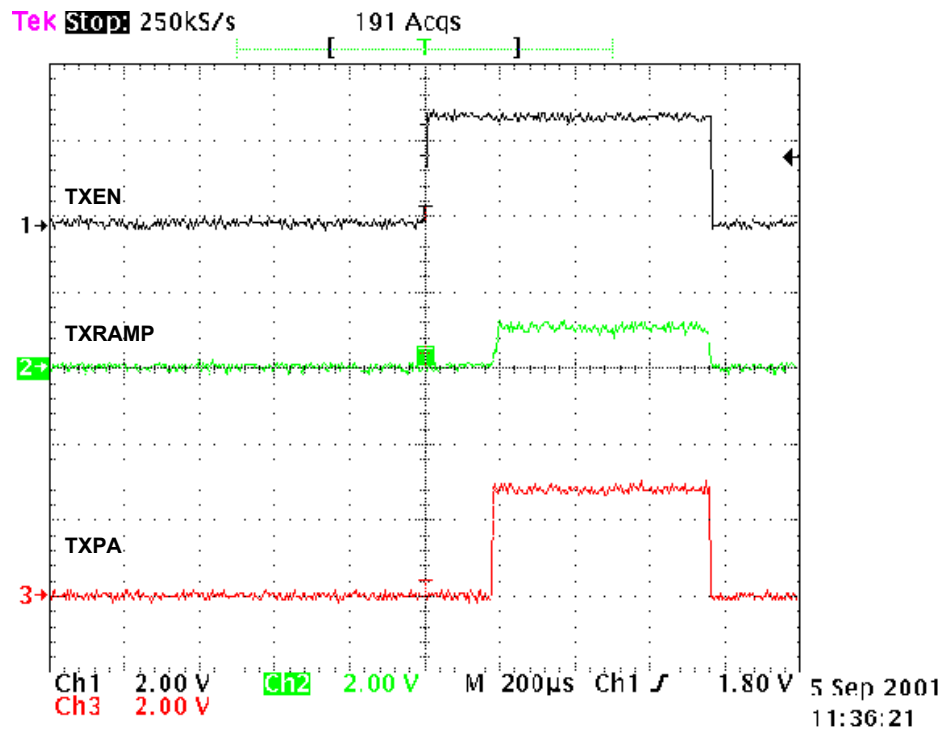

Figure 3-19. TXEN, TXRAMP, TXPA.
5. TXEN, TXRAMP, TXPA (see Fig. 3-19)